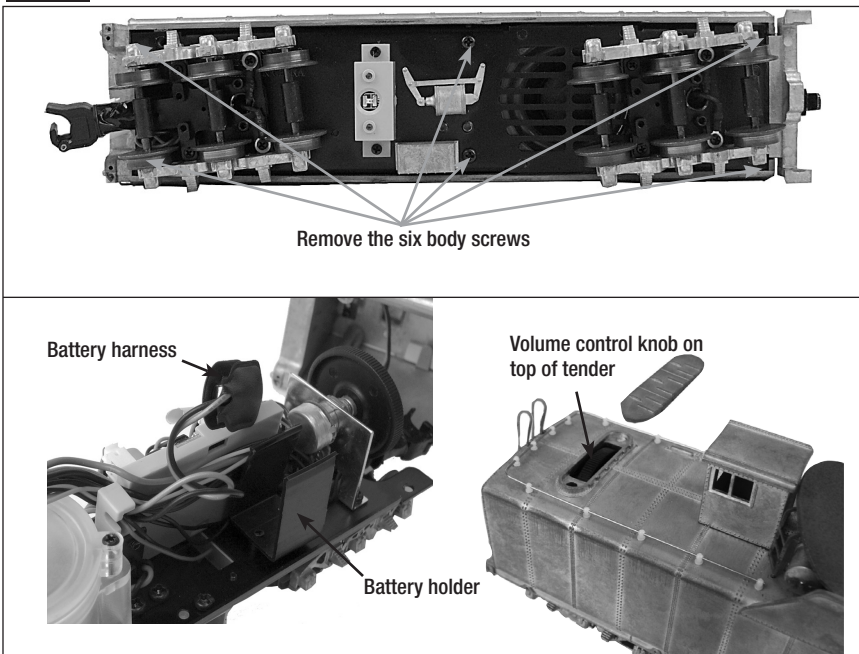

Figure 5. Battery and volume control knob
Although the LEGACY RailSounds sound system is powered through the track, we recommend that you install a nine-volt alkaline battery in the tender to prevent the sound system from shutting down during track power interruptions (for example, over a dirty section of track). Follow these steps and refer to Figure 5 as you install the battery.
1. Remove the six body screws from the underside of the tender. Refer to Figure 5 below for the location of the screws.
Refer to Figure 5 for a sample dialog script for manually controlled dialog on the locomotive's round trip using the numeric keypad.